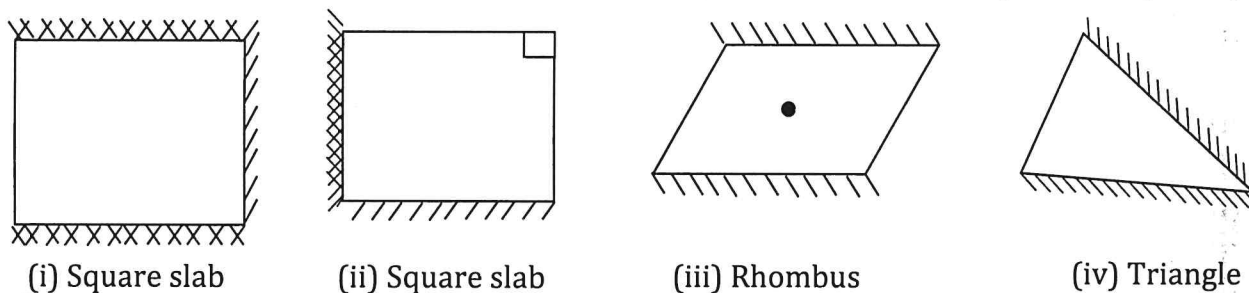

Figure Q3
b) Postulate the yield line pattern for the slab configurations shown in Figure Q3. **(6mks)**